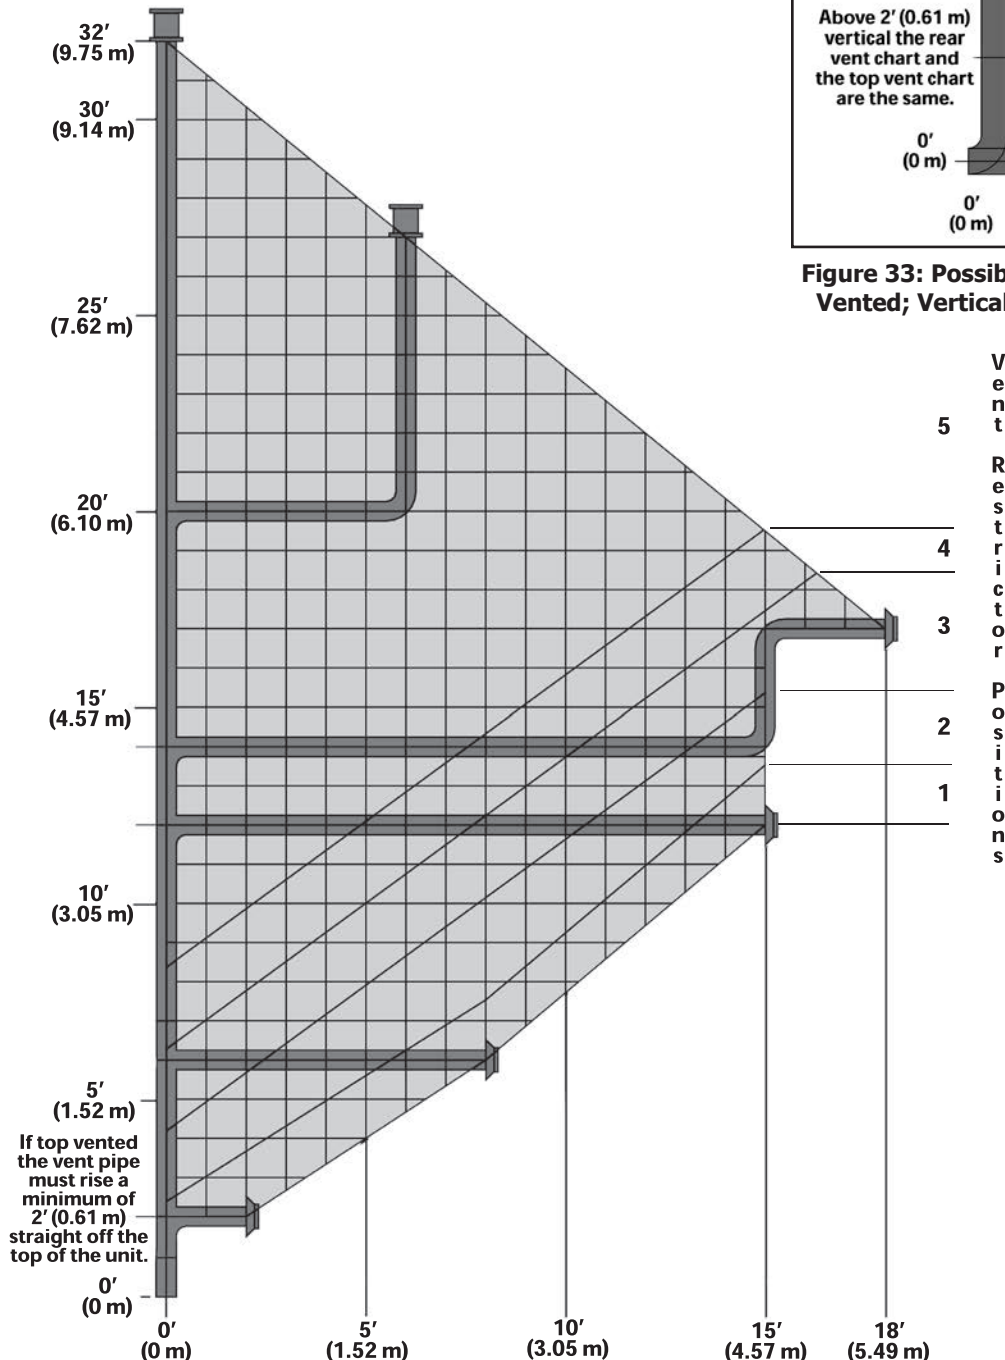
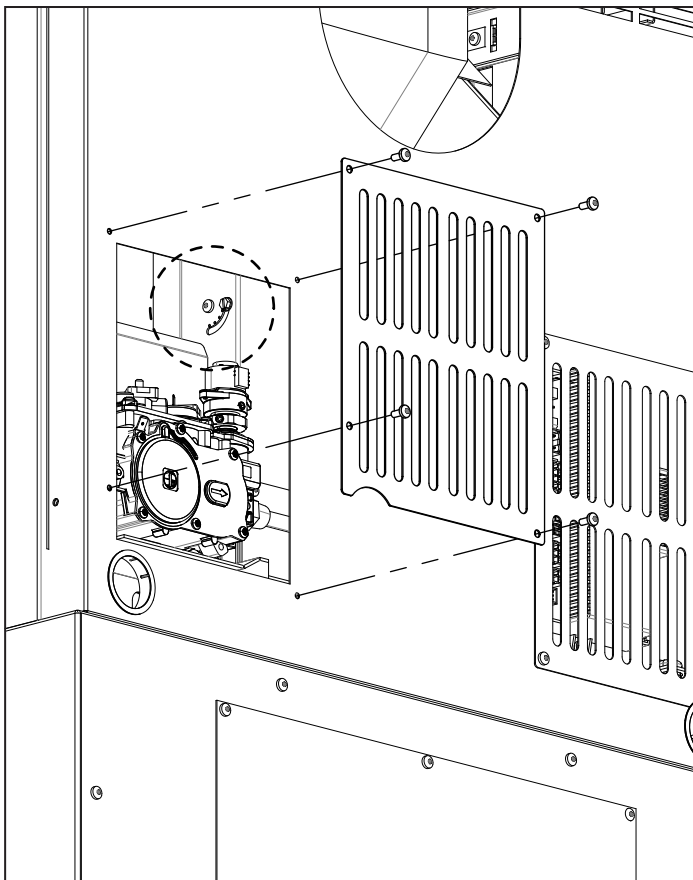
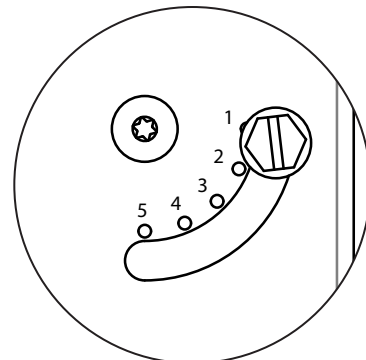
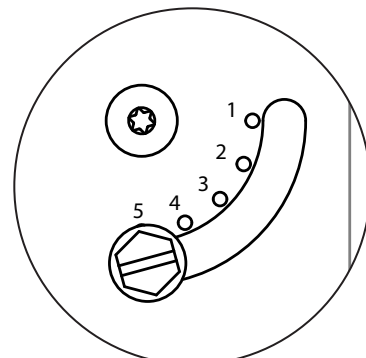

Figure 34: Possible Vent Configurations for Top Vented; Vertical and Horizontal Terminations.
Figure 35: Restrictor Adjustment Location
Figure 36: Restrictor Setting 1
Figure 37: Restrictor Setting 5
Your total vent pipe length must be within the shaded area of Figure 34. If a 90° elbow is used in the horizontal plane, 36" (91.4 cm) must be subtracted from the allowable horizontal run.
Figure 34 & Figure 35 show the range of venting options, they show possible vent configurations if the unit is top vented (see Figure 34) or rear vented (see Figure 35), for vertical and horizontal terminations, any layout that remains within the shaded area is acceptable. Having the fewest number of elbows is ideal, as they tend to disrupt air movement. Using 45° elbows is preferable to using 90° elbows. Also, a shorter vent system will perform better than a longer one.
***NOTE:** 0,0 in Figure 34 & Figure 35 represent the outlet of the flue collar elbow.
Figure 34 shows the vent restrictor position required, relative to the length of vent pipe. Longer vertical vent lengths necessitate greater restriction; position 1 (Figure 36) is open and position 5 (Figure 37) is maximum restriction. To avoid injury, it is best to make this adjustment when the fireplace is cool or use welder's gloves or oven mitts.
To access vent restrictor remove the valve cover plate from the right rear corner of the unit by undoing the four fastening screws. Refer to Figure 35.